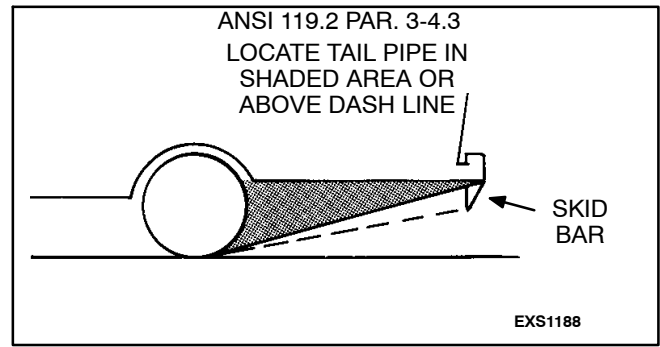

FIGURE 3-16. TAIL PIPE PROTECTION
- Termination of the exhaust tail pipe below the angle of departure (lowest point on rear of vehicle to the tire ground contact point) must be protected by a skid bar, trailer hitch, or some frame member (Figure 3-16).